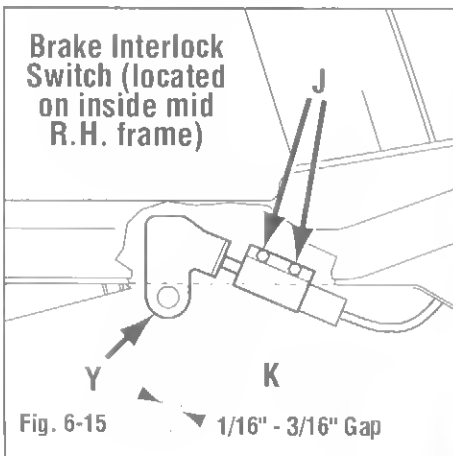

Fig. 6-15
Set parking brake. Adjust brake interlock switch (K, Fig. 6-15) at screws (J) as required to provide a 1/16" to 3/16" gap.